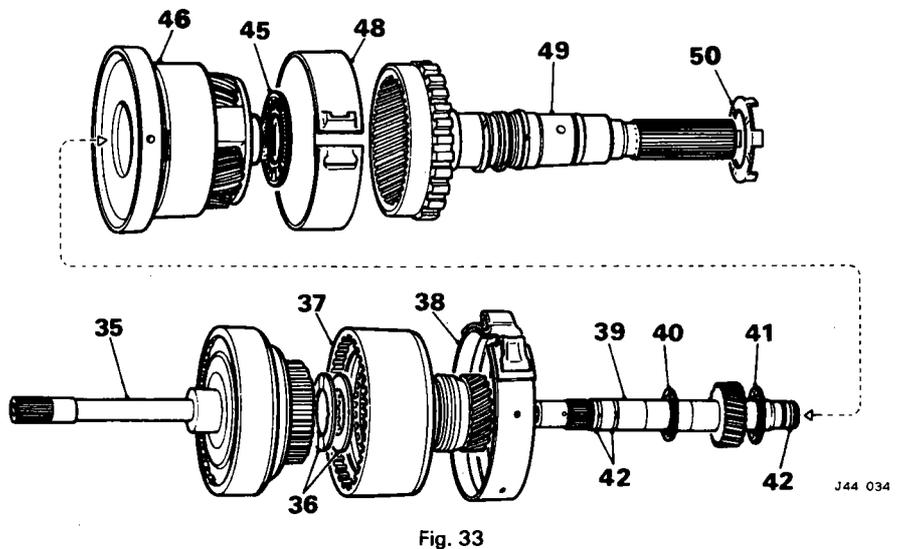

Fig. 33
35. Withdraw the front clutch assembly together with the input shaft (Fig. 33).
36. Remove the steel backing washer and the bronze thrust washer; discard the thrust washer (Fig. 33).
37. Withdraw the rear clutch assembly; remove and discard the sealing rings (Fig. 33).
38. Note the fitted position of the front brake band; compress and withdraw the brake band (Fig. 33).
39. Withdraw the forward sun gear shaft (Fig. 33).
40. Remove the small needle-roller bearing from the input end of the shaft (Fig. 33).
41. Recover the flanged backing washer and large needle-roller bearing from the output end of the shaft (Fig. 33).
42. Remove and discard the two sintered metal sealing rings from the input end and one fibre sealing ring from the output end of the shaft (Fig. 33).
45. Withdraw the centre support and planet carrier from the transmission case; remove the needle-roller bearing from the input end of the planet carrier assembly (Fig. 33).
46. Separate the centre support from the sun-gear assembly (Fig. 33).
48. Note the fitted position of the rear brake band; compress and withdraw the brake band (Fig. 33).
49. Withdraw the output shaft and ring gear assembly (Fig. 33).
50. Remove and discard the bronze thrust washer (Fig. 33).